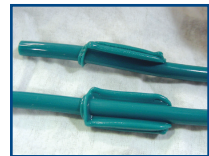
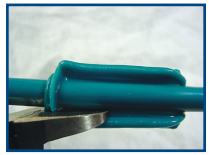

Fig. 6
Fig. 7
13. After a minimum of one minute, turn large wing nut counterclockwise several turns. Loosen both knurled thumbnuts several turns and pull back on red knob on front (sliding) die. Remove belt from welder, Fig. 6, and using included flash cutters trim weld flash from belt, Fig. 7.